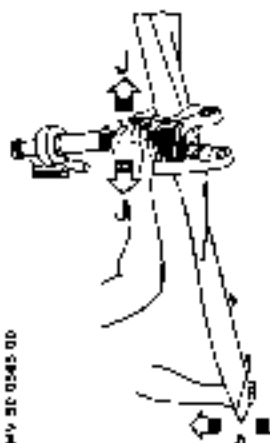

Figure 3
- . the absence of play (J) by twisting the blades back and forth, low amplitude movements (A) (Refer to Figure 3).